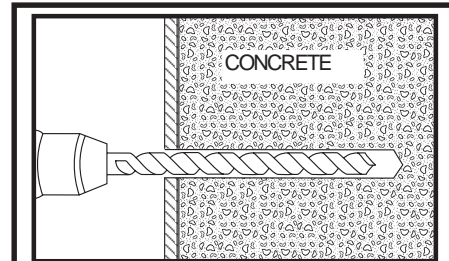

Fig. 3.1.1
Making sure that it is level, use wall arm (A) as a template to mark holes. Use an ANSI drill bit size between 0.255" - 0.259" to drill eight holes to a minimum depth of 3.25" (83 mm) as shown in **figure 3.1.1**. Blow the hole clean of dust and other material.